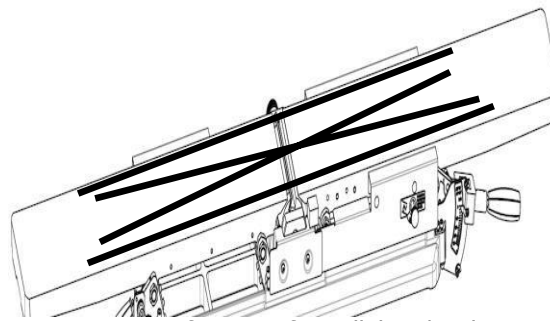

Figure 33: Verification of parallelism/coplanar
STEP 6: Remove infeed table "depth stop release knob" and infeed table cover, loosen set screws and place straight edge across infeed tables as in Fig. 33, and adjust eccentric bushings under infeed table (as in Step 4) for outfeed table.
STEP 7: Verify parallelism in each position as in Fig. 33 confirm eccentric bushings are snug and tighten cap screws and then set screws in eccentric bushings on infeed table.